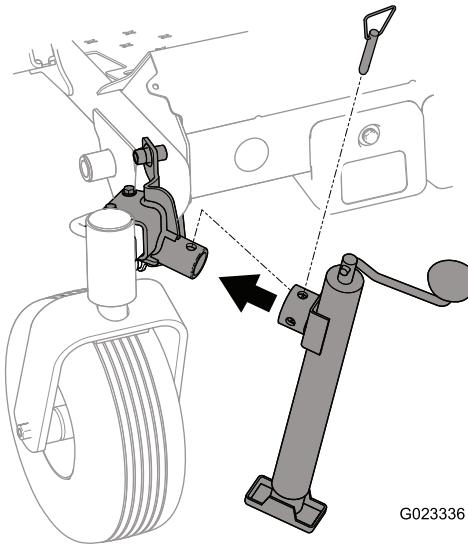

Figure 2
2. Insert the jack tube onto the jack mount tube, align the mounting holes and secure with the jack pin (Figure 2).